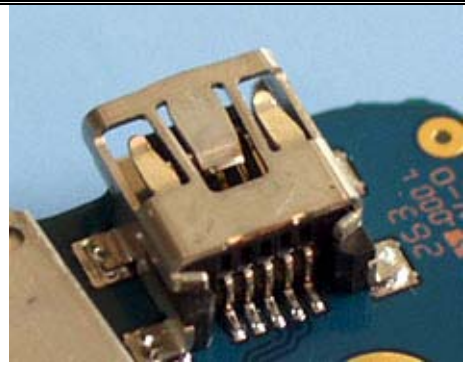

Fig. 6.2
- Check if the USB connector X2500 (*Fig. 6.2*) is mechanically damaged, dirty or oxidized. Replace it if necessary.